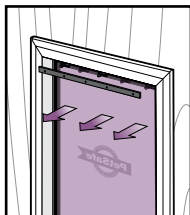

FIG. 14
2. Remove bar and vinyl flap (**Fig. 14**).